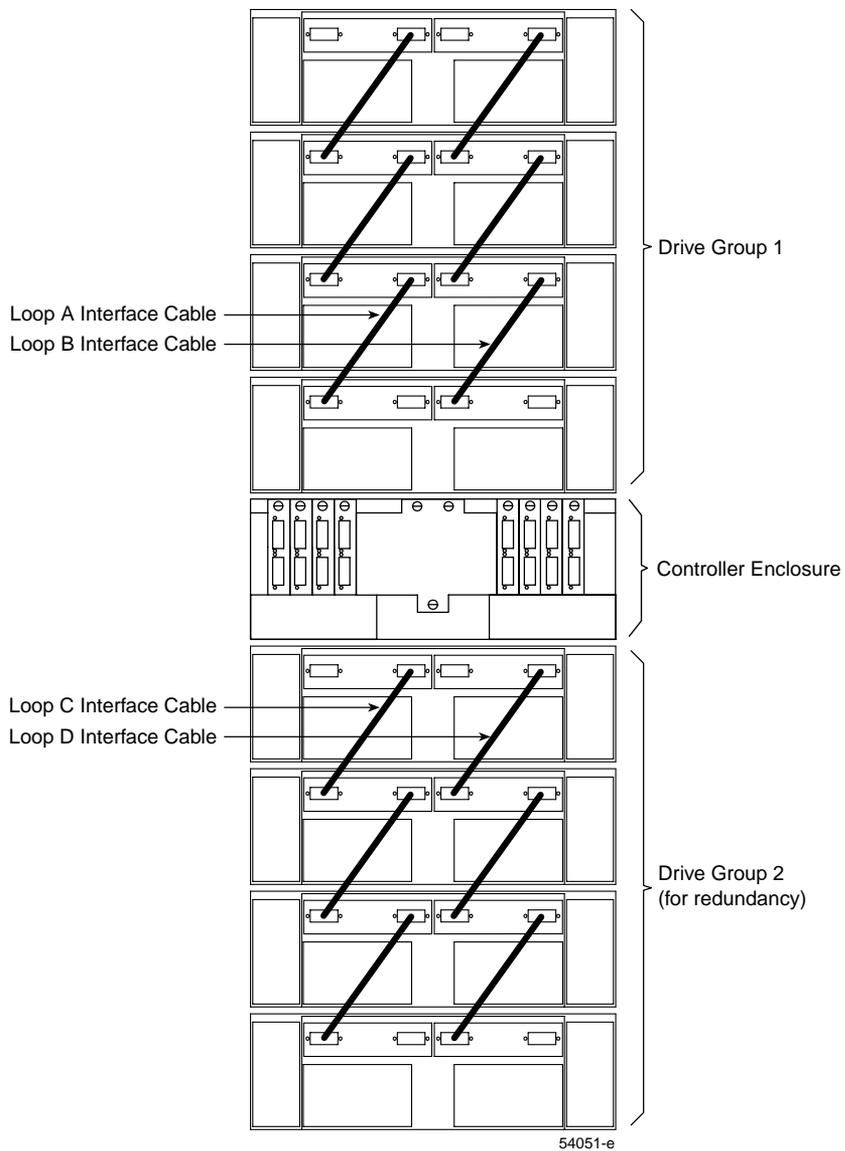

Figure 8-3 Connecting a Second Redundant Drive Loop
4. Repeat step 1 through step 3 to cable a second drive group in the same manner (Loop C and Loop D on Drive Group 2) (Figure 8-3).